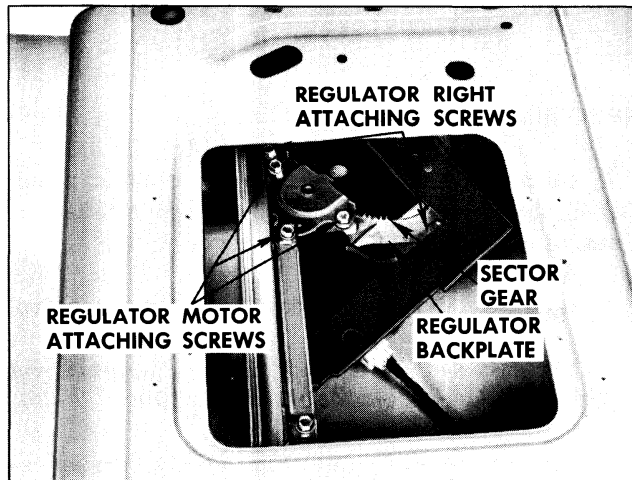

Fig. 14-20 Regulator Motor Attachment
5. Loosen regulator right attaching screws (Fig. 14-20). Remove three motor attaching screws and remove motor from regulator and tail gate.